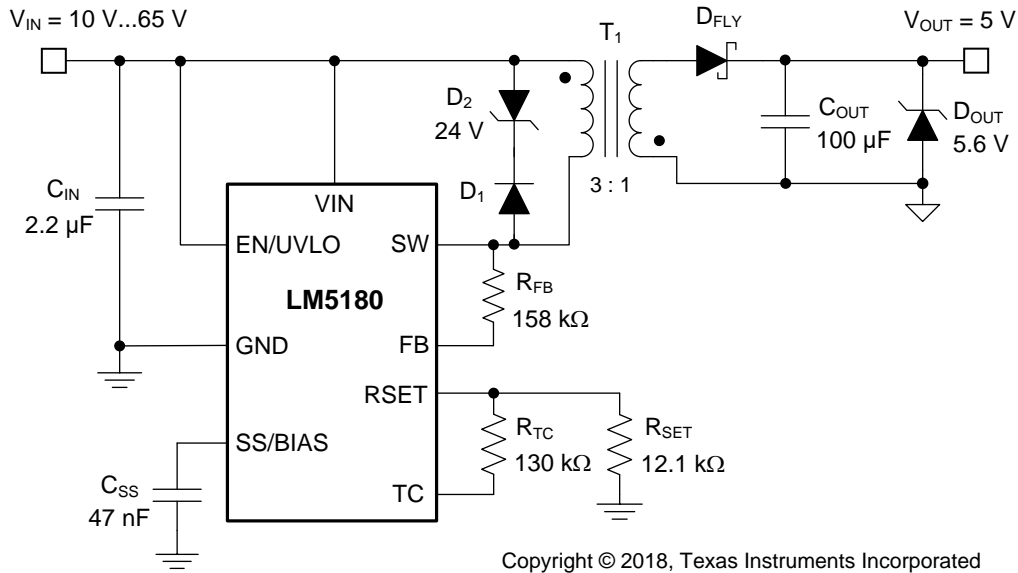

Figure 1. LM5180 PSR Flyback Converter Simplified Schematic
Figure 1 shows the schematic of an LM5180 PSR flyback converter (EMI filter stage not shown). Soft start (SS), temperature compensation (TC), and UVLO (EN/UVLO) components are shown that are configurable as required for the specific application.